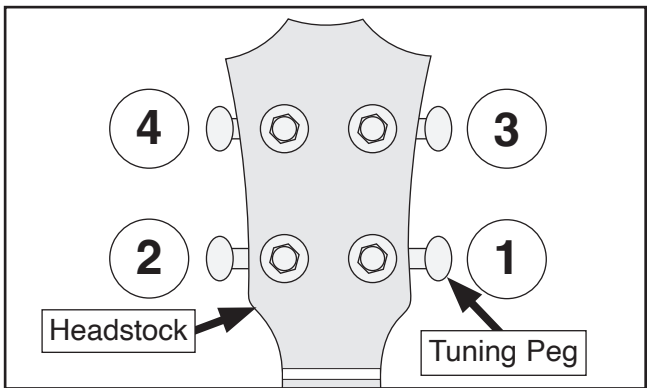

Figure 26. String installation into tuning pegs.
- Route strings to inside of tuning pegs and through peg holes. Refer to **Figure 26** for proper string placement in tuning pegs.